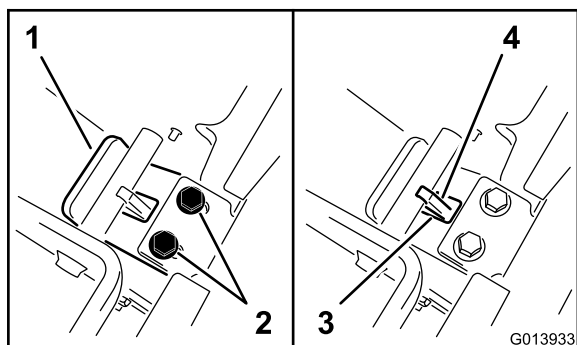

Figure 20
5. While maintaining the pressure on the back plate, slide the tongue toward you until the lip of the tongue plate contacts the crossbar (Figure 20).